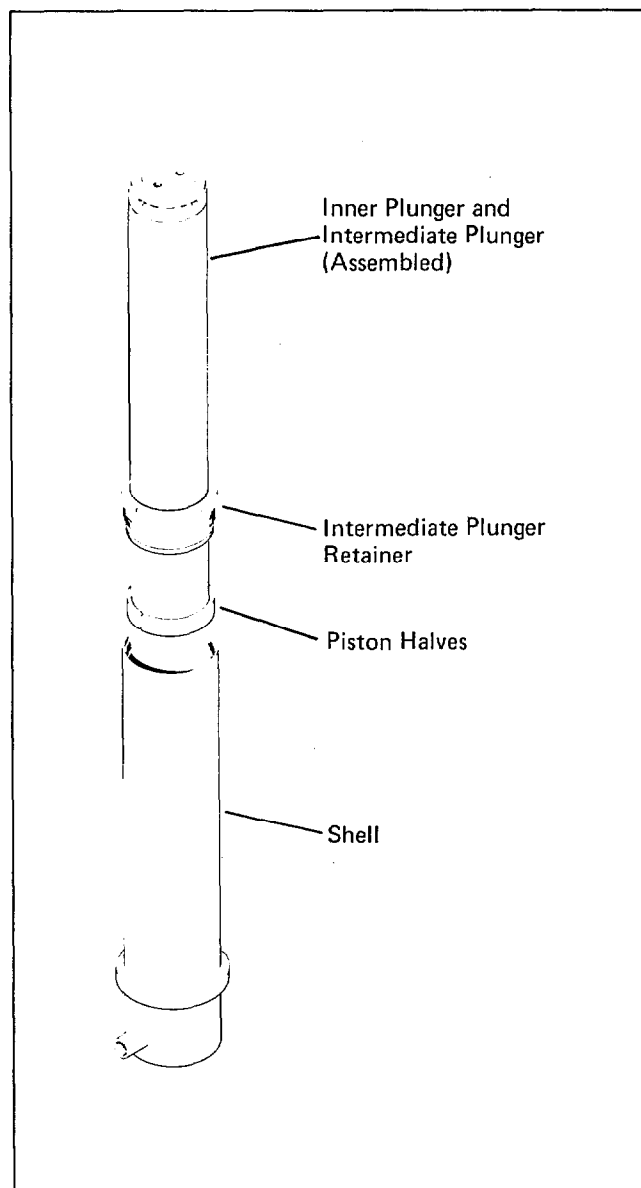

Figure 5-4 Cylinder Disassembly
14. Slide the intermediate plunger retainer off the intermediate plunger. See figure 5-4.